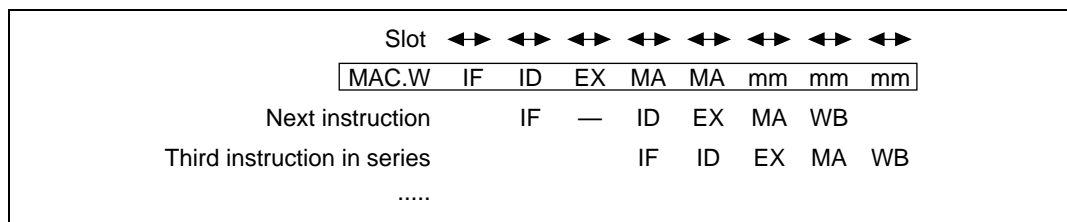

Figure 10.29 Multiply/Accumulate Instruction Pipeline
The pipeline has eight stages*: IF, ID, EX, MA, MA, mm, mm, and mm (figure 10.29). The second MA reads the memory and accesses the multiplier. The mm indicates that the multiplier is operating. The mm operates for three cycles after the final MA ends, regardless of slot. The ID of the instruction after the MAC.W instruction is stalled for one slot. The two MAs of the MAC.W instruction, when they contend with IF, split the slots as described in section 10.2.1, Contention between Instruction Fetch (IF) and Memory Access (MA).